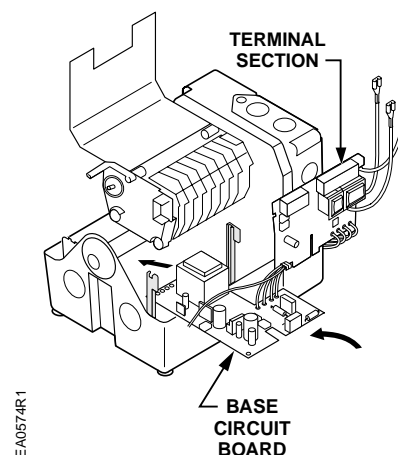

Figure 19.
4. From the switch housing side of the actuator, guide the base circuit board into the bottom of the circuit board mounting bracket. See *Figure 19*.